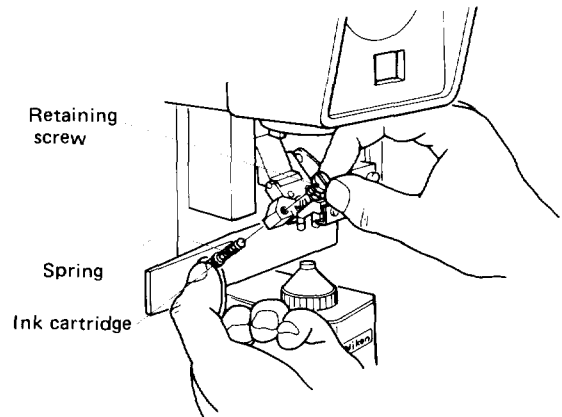

Fig. 17
- Insert the spring into the new cartridge (Fig. 17) and tighten the retaining screw.